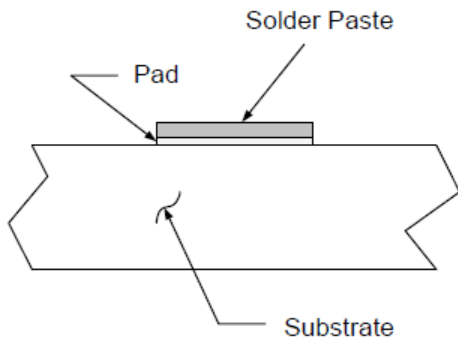
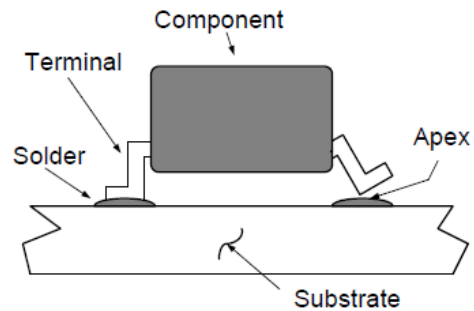

Fig. 3. PCB With Solder Paste Before Component Insertion and Reflow
Fig. 4. Device Exhibiting Poor Coplanarity
**PCB Pad Layout and Solder Paste Thickness:** It is important to use proper layout patterns in order to ensure good solder connections, especially for surface mount components soldered by a reflow process. Many surface mount components have more than three terminals which form the “footprint” for the devices. Ideally, every terminal of the device would be formed to create a perfect mounting plane. In the real world, there is a tolerance associated with how close each lead comes to meeting the intended plane. A measure of this characteristic is called *coplanarity*. In most cases, some of the terminals of a device will not be perfectly aligned with the intended mounting plane. In an infrared reflow solder process, the PCB pads are coated with a solder paste (Figure 3). When the assembly is heated in an oven, the solder paste warms and reflows. As the solder paste liquefies, it forms an apex at the center of the PCB pad. This apex must contact the terminal of the device in order to make contact. When using an IR reflow process, the solder process engineer must take into account the pad layout and the coplanarity of the devices when determining the solder paste thickness. Figure 4 shows a failure mode where the device has poor coplanarity and the solder paste thickness is insufficient for the apex of the liquefied solder to contact the poorly formed terminal.